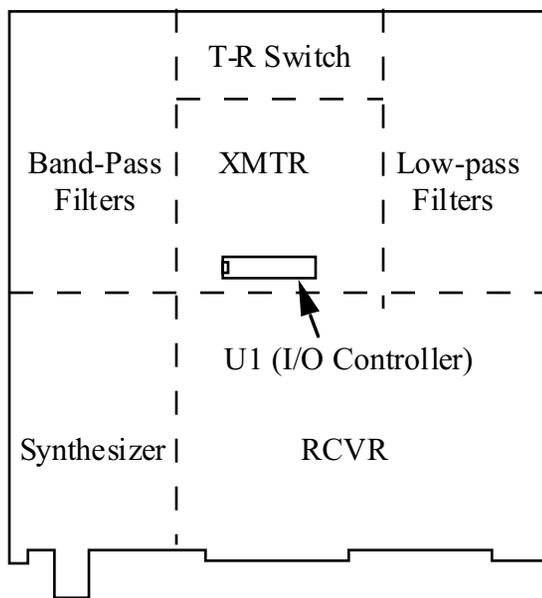

Figure 6-1
□ Take a moment to familiarize yourself with the RF board using Figure 6-1 to identify the major sections. If you flip the board over you'll see that there are a few components on the bottom of the board, primarily in the transmitter section.
Turn the board back over to the top side. Install the 28-pin IC socket at U1, near the middle of the board (Figure 6-1). The notched end of the socket should be at the left. Make sure the socket is flat against the PC board before soldering. (U1 itself will be installed in a later step.)